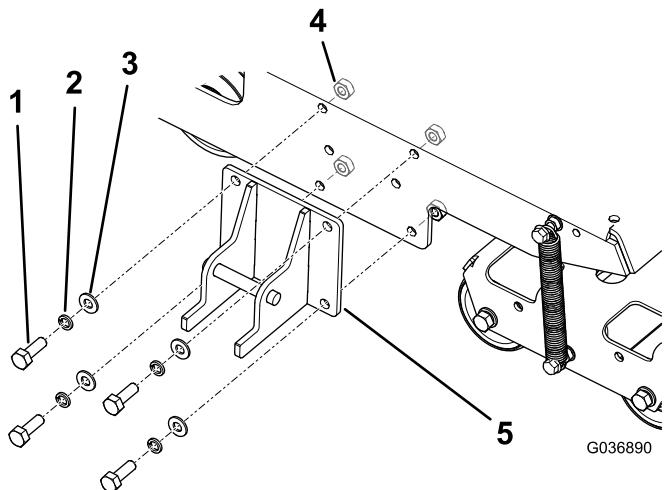

Figure 4
1. Install the lock bracket to the frame of the machine as shown in Figure 4.